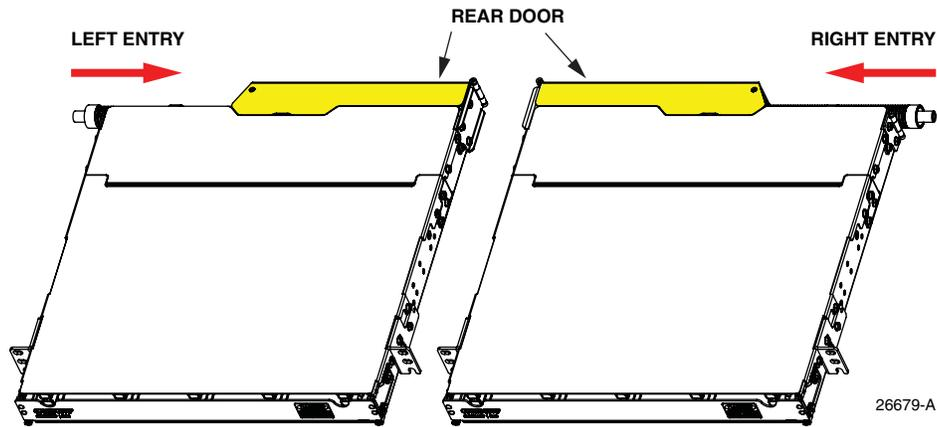

Figure 2. Left and Right Cable Entry Models
- **Read Door**—comes in two models providing either left or right cable entry, as shown in Figure 2.